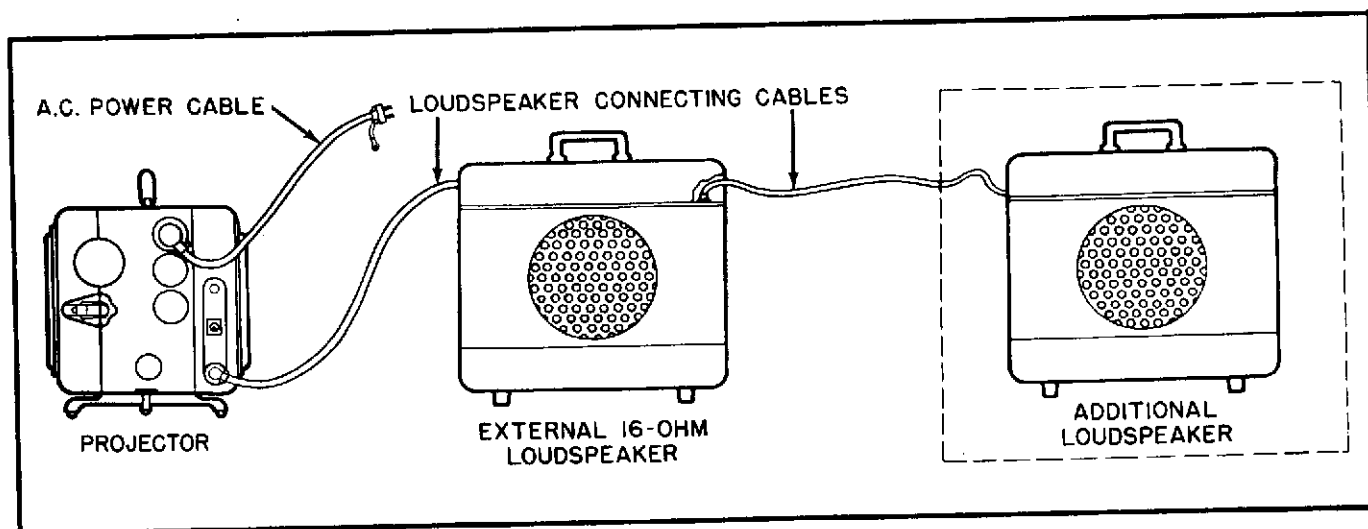

Figure 1-11. Interconnecting Diagram for External Loudspeaker Operation
1-53. Make the cabling connections between projector and external loudspeaker as shown in figure 1-11. Also, make certain that the loudspeaker selector switch is in the REMOTE SPEAKER ON position. (See figure 1-8).
- f. Move the loudspeaker selector switch to the correct position. If the built-in, 5-inch loudspeaker is to be used, this switch must be set in the upward position, LOCAL SPEAKER ON. If an external 16-ohm loudspeaker is to be used, insert the loudspeaker cable connector into the Cannon receptacle marked REMOTE SPEAKER, then move the loudspeaker selector switch to the position marked REMOTE SPEAKER ON. Refer to figure 1-11 for cabling connections when using external loudspeaker.